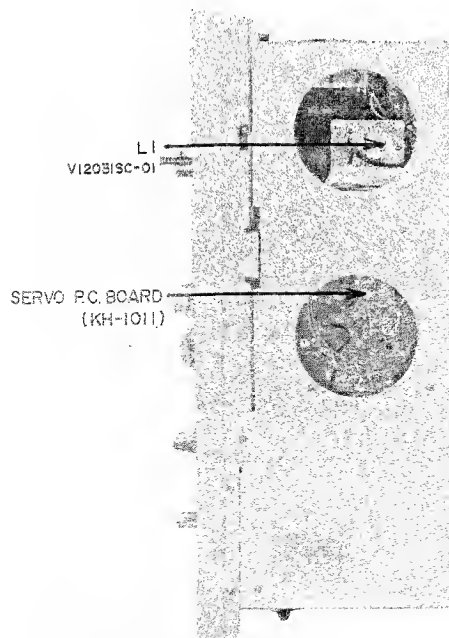

Fig. 8
- 3) Adjust the core of Coil L1 (V1203ISC-01) shown in Fig. 8 to obtain a Frequency Counter indication of 500 Hz $\pm 1\%$.